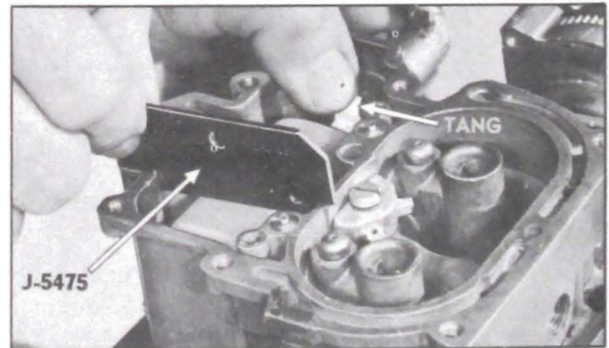

Figure 3-73—Float Level Adjustment
9. Hold float arm tang against float needle; then check float level using Gauge J-5475. See figure 3-73. If top of float is not specified distance ($\frac{3}{16}$ ") below top edge of float bowl, adjust by bending float arm tang. Be sure float is centered so it does not rub walls of bowl.